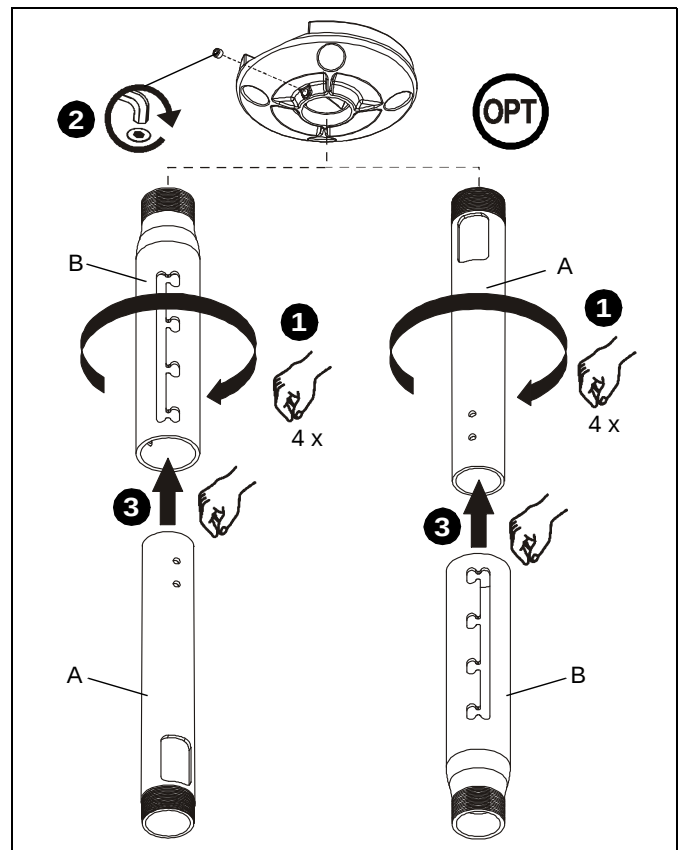

Figure 2
1. Install 1-1/2" NPT threaded column (A or B, as applicable) into plate/adaptor (See Figure 2). Securely tighten column.
- Ensure cable access opening is rotated to desired position (optional installation, column (A)).
- Secure column (A or B, as applicable) by tightening set screw in plate/adaptor (See Figure 2).
3. Install mating column (A or B, as applicable) (See Figure 2).